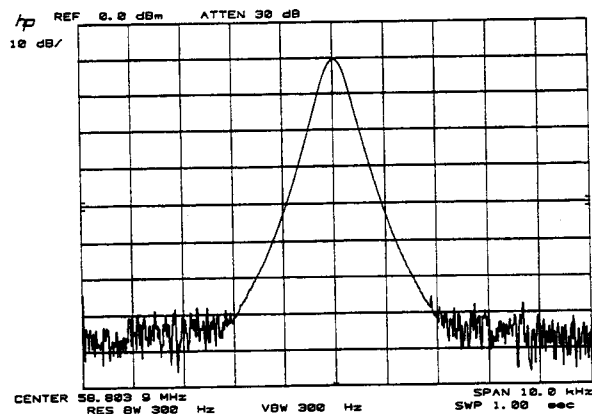

Figure 24. Stable HI OUT Signal in FRACN TUNE Mode
5. If the HI OUT signal is as clean as Figure 24, the A7 assembly is bad.
NOTE: Some phase lock problems may result from phase noise problems in the fractional-N loop. To troubleshoot this unusual failure mode, set the network (or lightwave) analyzer at 60 MHz in the FRACN TUNE mode. On a spectrum analyzer, the HI OUT signal from the A14 assembly should appear as clean as Figure 24. The comb shape may vary from pulse generator to pulse generator.